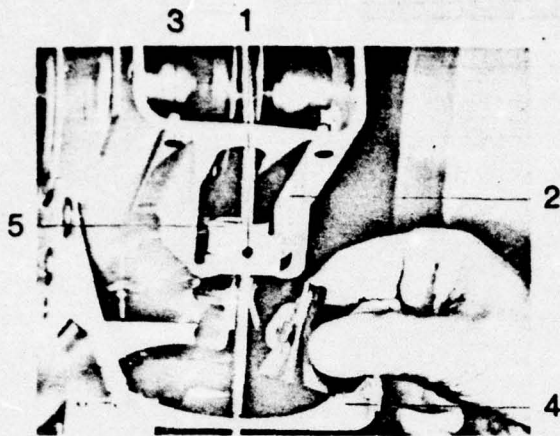
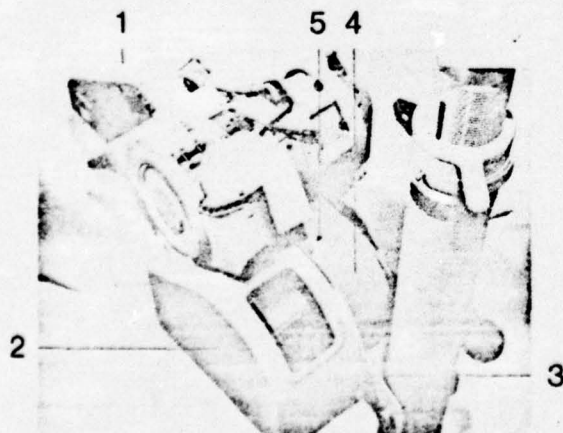

Figure 3.19
Figure 3.23
1. Cover plate (1, Figure 3.23) loosened by taking out one cheesehead screw M4 x 12 DIN 912 along with plate 4.3 DIN 125 at the spot (1, Figure 3.19).
2. Holder (2, Figure 3.19) with separated intake funnel passed through the borehole of the clutch lever (4, Figure 3.19)
after taking out four countersunk screws M4 x 12 DIN 7991 (3, Figure 3.19).
3. Place open-end wrench $s = 24$ mm at a slant from above on the nut (5, Figure 3.19) and take out intake funnel with open-end wrench $s = 32$ mm.
3. Remove cover plate (4, Figure 3.23) after unscrewing one cheesehead screw M4 x 12 DIN 912 with plate 4.3 DIN 125 (5, Figure 3.23) and a similar screw with plate on the underside of the jib, removal taking place slanting upward.